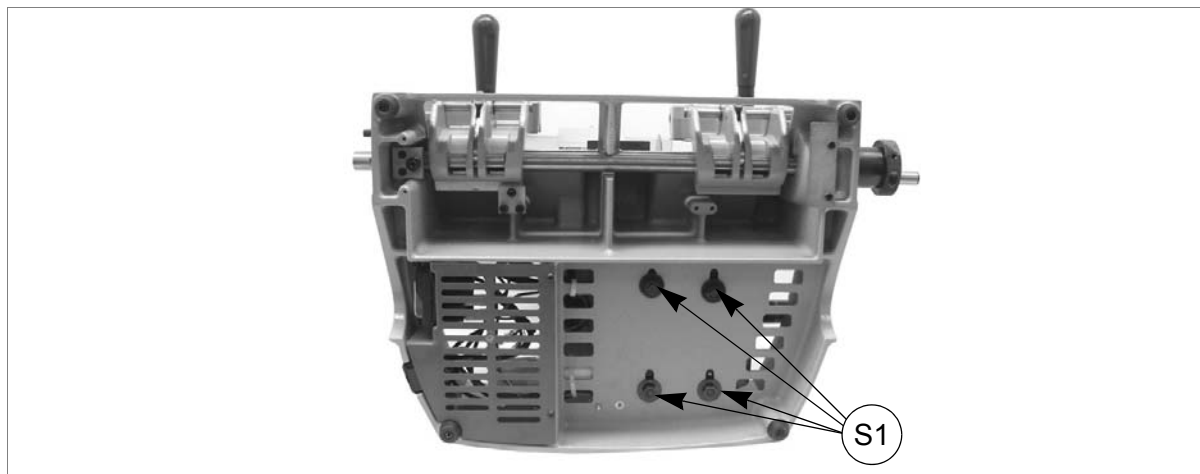

Fig. 50
- 2) Access the bottom part (chap.9.2, page 34) and loosen the 4 nuts (S1) of the plate motor (fig. 50).